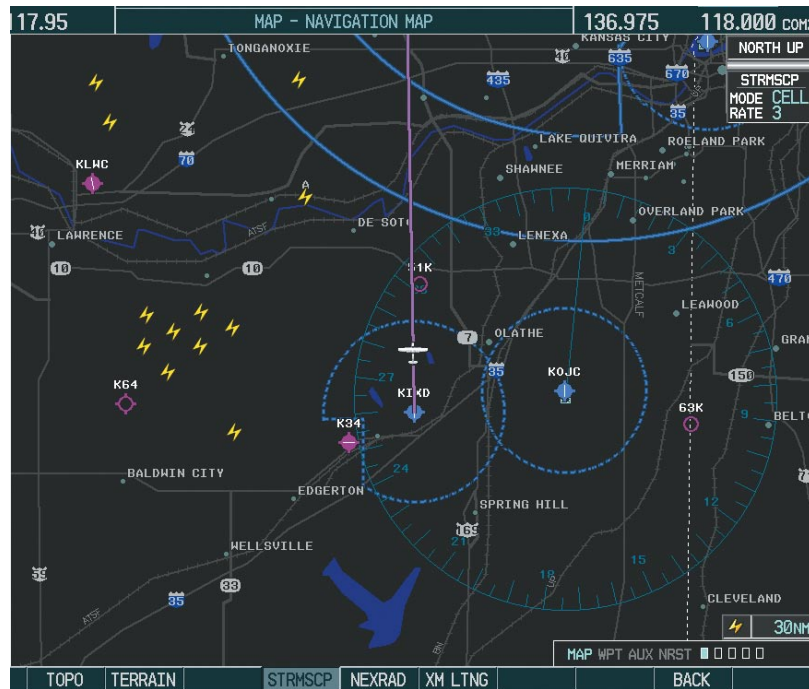

Figure 6-40 Navigation Map Page with Stormscope Lightning Data
- 7) Press the **FMS** Knob to return to the Navigation Map Page (Figure 6-40).
On the Navigation Map, cell mode identifies cells of lightning activity (Figure 6-40). Stormscope identifies clusters of electrical activity that indicate cells. Strike mode indicates the approximate location of lightning strikes.